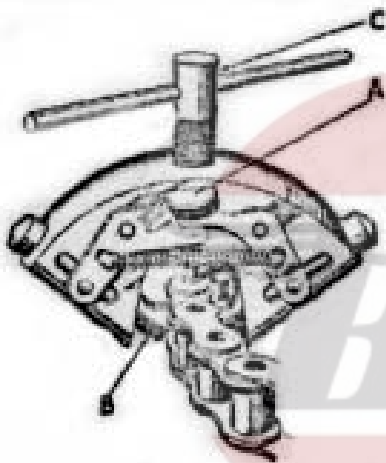

Fig. 43.
A chain rarely breaks if it is kept properly lubricated and adjusted. Usually it is worn out long before it reaches breaking point. The rear chain is the most heavily stressed and is therefore the one most likely to give trouble. Spare parts are carried to enable the rider to carry out a repair on the road with the aid of a chain rivet extractor (see Fig. 43). The front chain will probably be worn out before it requires shortening.
First press down lever A (Fig. 43) to open the two jaws (B). Insert the link to be removed so that the jaws grip the roller and support the uppermost inner side plate. The Punch (C) is then screwed down on to the rivet head until the rivet is forced through the outer plate.